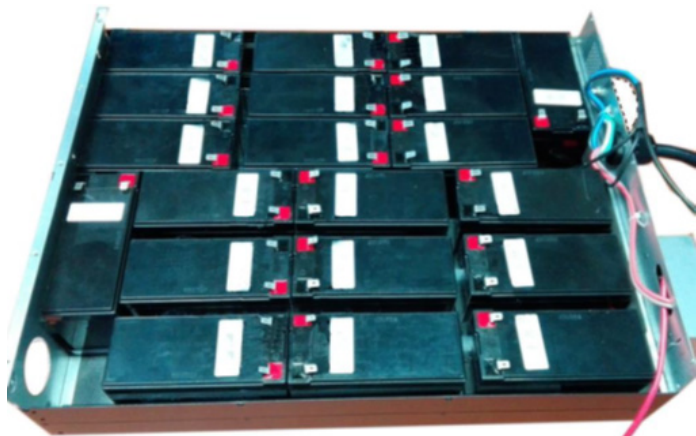

Fig 2-2
2. Puneti bateria in sasiu, consultati Fig 2-2: